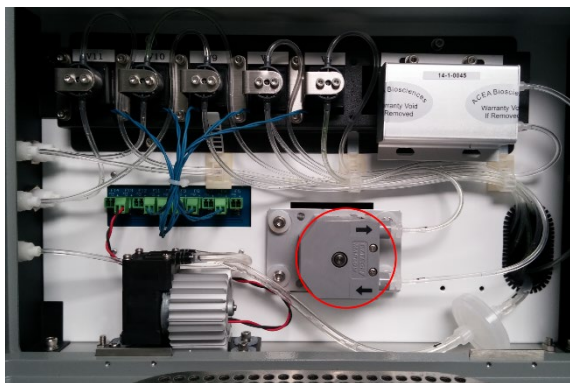

Figure 105. Location of Sheath Pump
- 2 Open the side panel of the instrument and locate the sheath pump as shown in Figure 105.